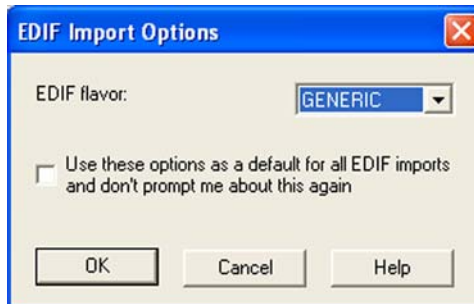

Figure 5-42. EDIF Import Options Dialog in Designer
7. When the EDIF Import Options dialog box appears, as in Figure 5-42, click **OK**. This will re-import the source files (all three of them) into Designer.